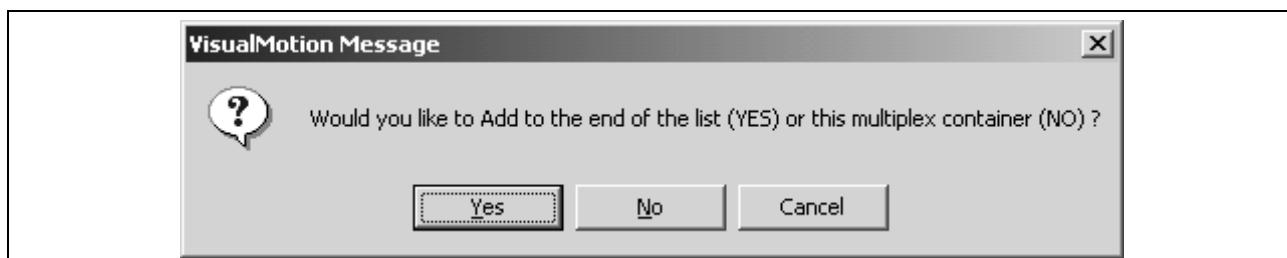

Fig. 7-14: Add Item or Multiplex Item Screen
2. Click Add. The screen in *Fig. 7-14* below appears. Because it is unclear whether you would like to add to the list or to the multiplex container, the Fieldbus Mapper is requesting clarification.